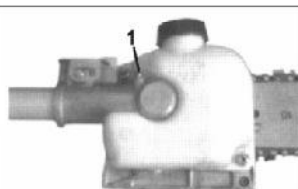

Fig.PP16
4. Lubricate the gear case. To perform this operation, first remove the gear case from the upper outer tube as follows (See Fig.PP16) :